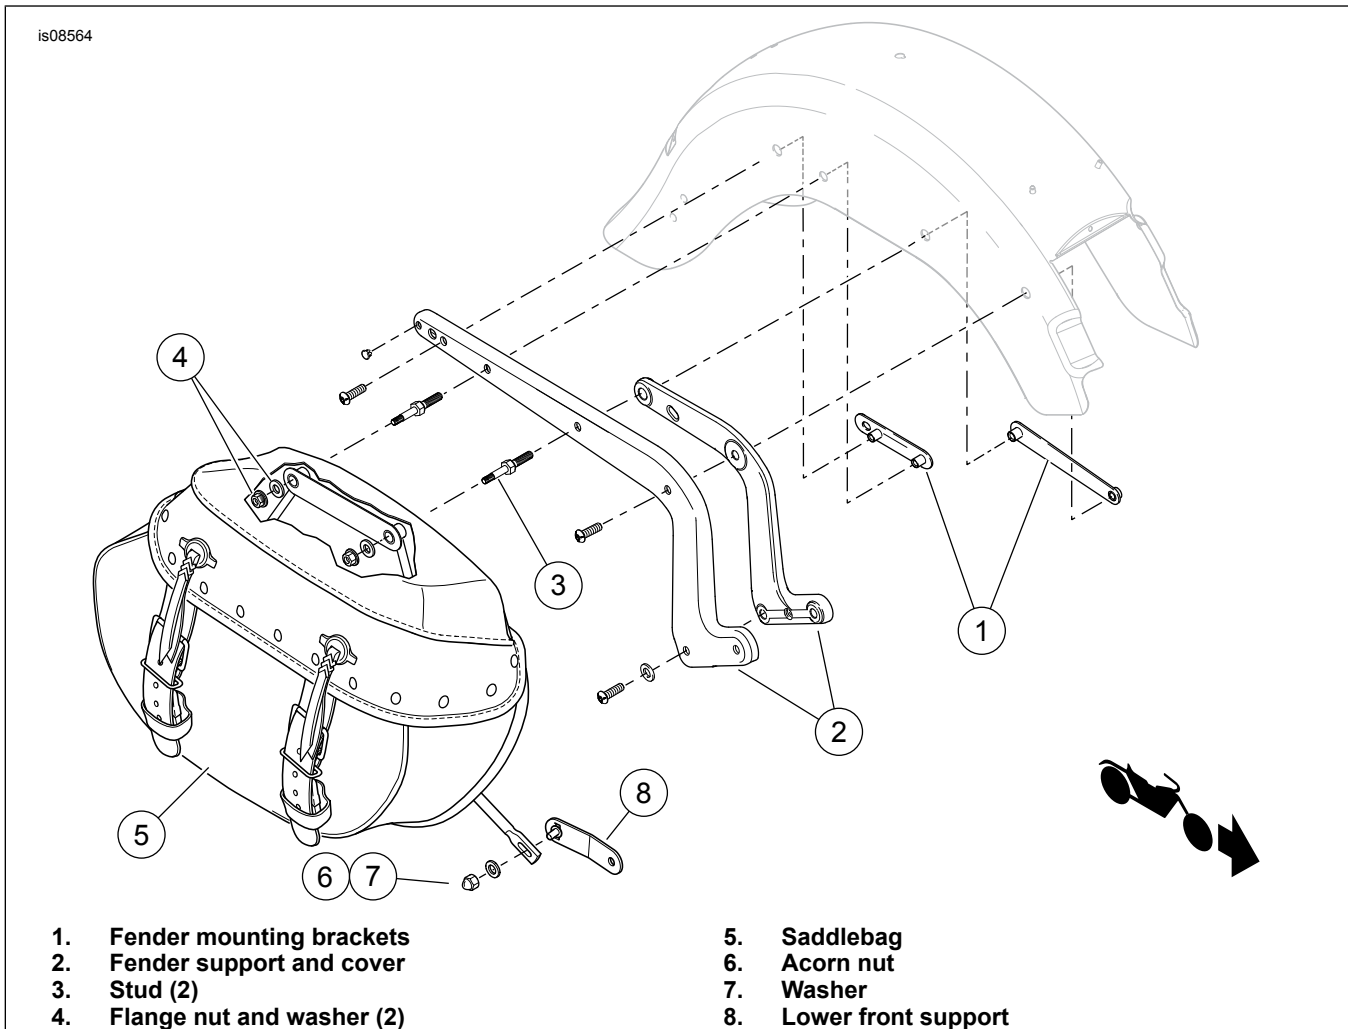

Figure 1. Remove Saddlebag
1. See Figure 1. Remove acorn nut (6) and washer (7) from the lower front support (8).
2. Remove flange nuts and washers (4) from inside saddlebag.
4. Remove studs (3). Remove rear passenger footpeg. Remove lower front support.